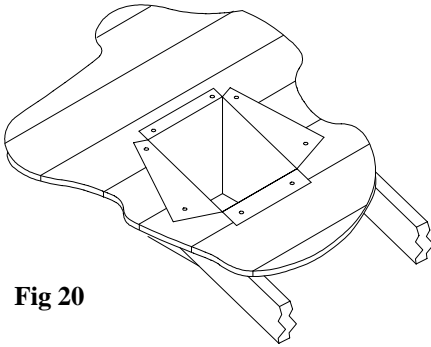

Fig 20
Step 5. Using tin snips, cut the Support Box from the top corners down to the roofline, and fold the resulting flaps over the roof sheathing. (Fig 20) Before nailing it to the roof, run a bead of non-hardening sealant around the top edges of the Support Box, to make a seal between the Box and the roof. Clean out any combustible material from inside the Support Box.